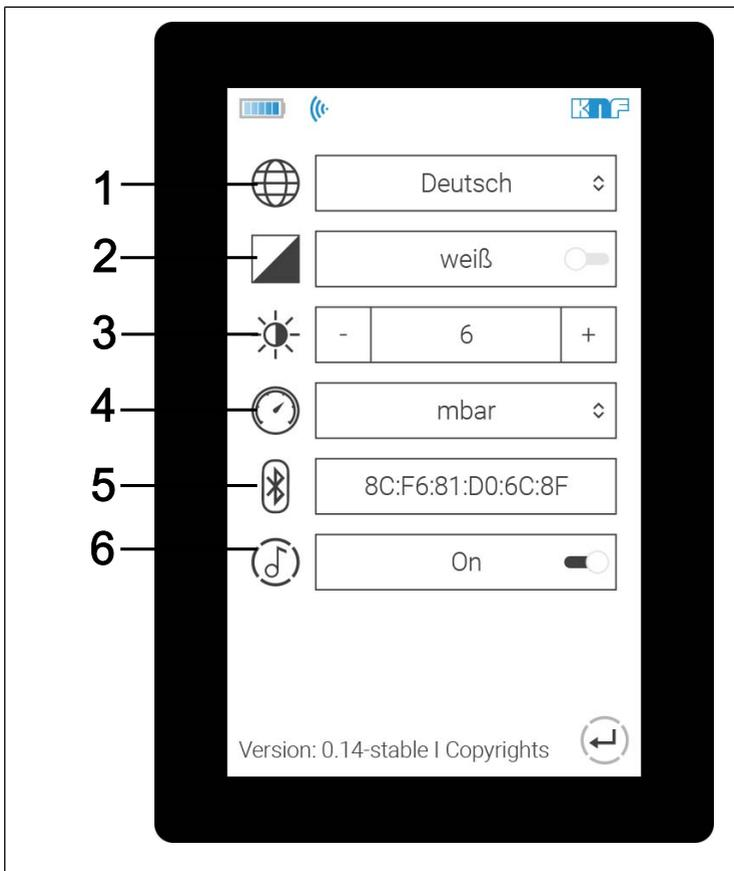

Fig.16: Menu: Settings
- Menus for selecting the unit for the pressure display (Fig. 16/4).
In Settings (Fig. 16), you can choose from the following menu languages: German, English, French, Italian, Spanish and Dutch (Fig. 17).
The pressure unit can be selected by going to Settings (Fig. 16) and selecting the Pressure unit menu there (Fig. 16/4).
2. Press the displayed MAC address of the connected Bluetooth device (Fig. 16/6).